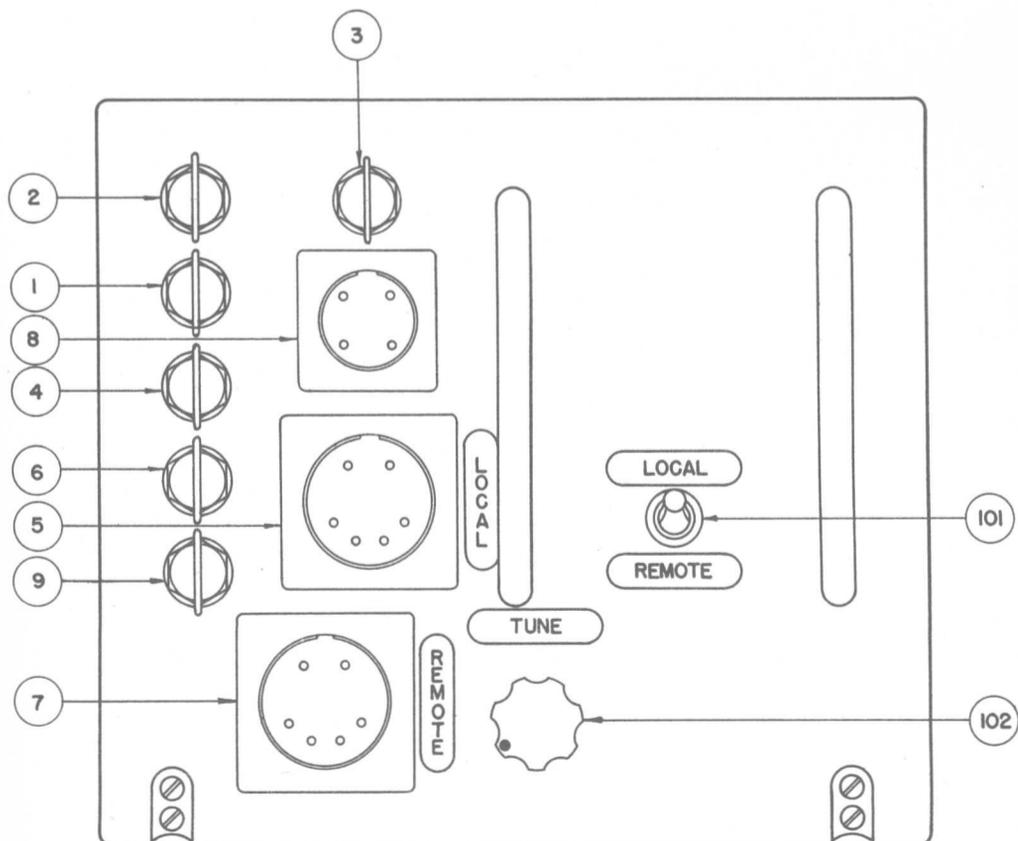

Figure 2 — Radio Receiver BC-701-A — Front View
STEP 10: See that "Local-Remote" switch (101) (Fig. 2) on Receiver Unit is set to "Local" position. Set Range Switch (73) to "9" position. Turn "Gain" control (70) clockwise until some images appear to the right and left of the vertical line. Readjust the "Focus" and "Brilliance" Controls to obtain clear images. While observing one of the images rotate the "Tune" Control (102) (See Fig. 2) on the Receiver to obtain maximum width (amplitude) of the image. If the image extends almost to the edge of the tube, it will be necessary to reduce the gain and then readjust the "Tune" Control.
STEP 11: After Receiver "Tune" Control has been adjusted (in Step 10) throw "Local-Remote" switch (101) to "Remote" position. Set "Range" switch on Remote Indicator to "9" position. Adjust Focus, Brilliance and Gain Controls to obtain the same indications that were obtained on the Local Indicator. Note that the Gain setting for *both* Indicators is controlled from either the Local or Remote Indicator depending upon the position of the Local-Remote Switch (101) (See Fig. 2).
If the vertical line which appears on the indicating tube screen is not in a central position adjust the top ("Hor") control (75) to shift the line to the right or left, and adjust the middle ("Vert") control (76) to alter the up and down position to coincide with the calibrated scale. When two indicators are used in an installation both will be in operation and will have to be adjusted separately. However, the gain control can only be controlled from one indicator at a time and this is dependent upon the position of "Local-Remote" switch (101) (See Fig. 2).